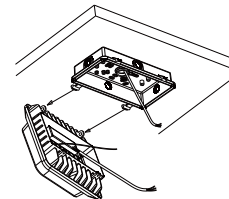

Figure 2-5
5. Insert the mounting hole of radiator horizontally on the shaft of driver cover; Figure 2-5